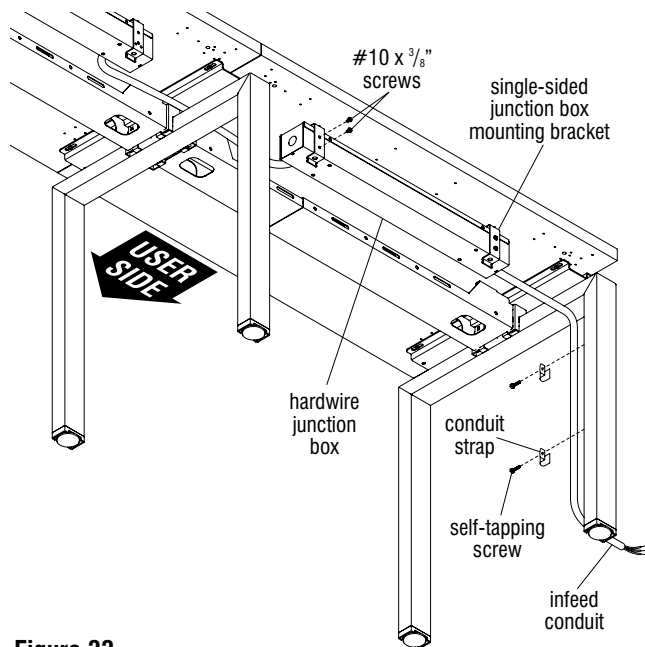

Figure 33
5. With the assistance of two or more people, move the hardwire electrical assembly rearward (opposite the user side), under the worksurfaces. Route the pass-thru conduit over the shared leg tops and position the hardwire junction boxes up to the hardwire box mounting brackets. Finally, align the mounting holes of the hardwire boxes with the holes in the hardwire box mounting brackets and secure using two #10 x  $\frac{3}{8}$ " screws per bracket (Figure 33).
6. Route the flexible infeed conduit (customer supplied) along the leg and mark the pilot holes where the conduit straps (customer supplied) will be installed. It may help to position the straps over the flexible conduit on the leg to assist in marking the pilot holes (Figure 33).
7. Position the flexible conduit out of the way. Use a hammer and punch to mark the location, then drill pilot holes, using an appropriate size drill bit in the leg at each conduit strap mounting location (Figure 33).
8. Position the straps over the flexible conduit and secure to the leg using appropriate self-tapping screws (customer supplied). Be careful to not over tighten (Figure 33).